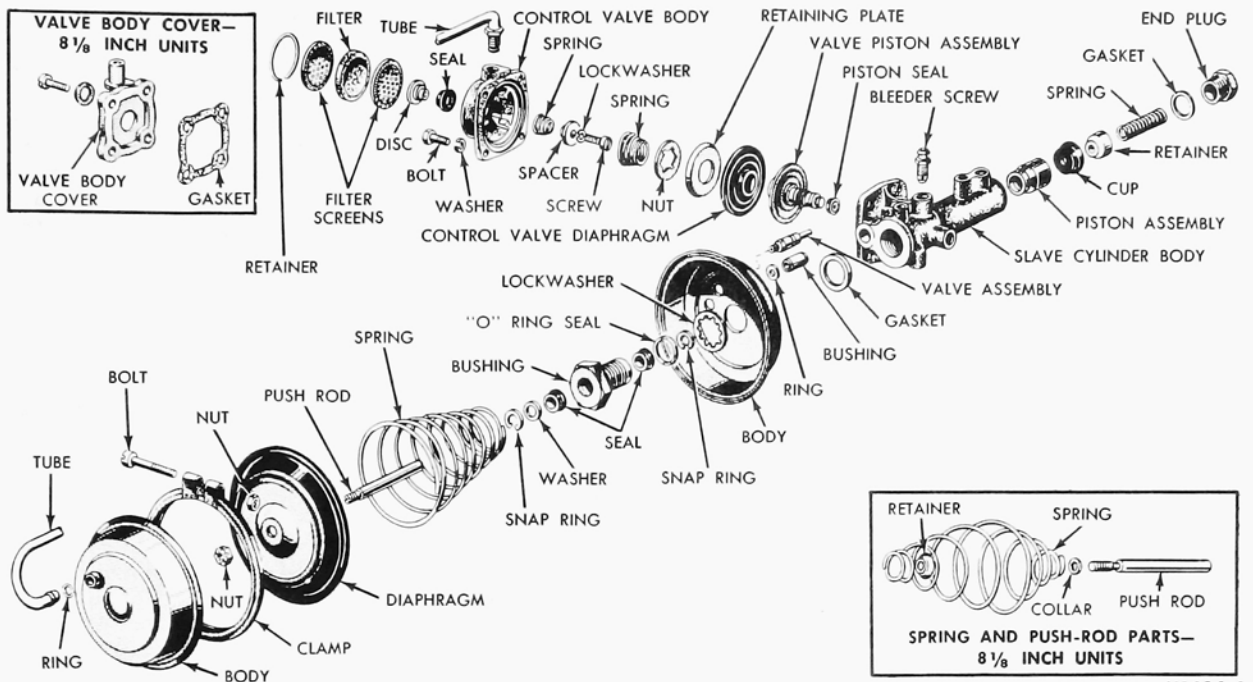

FIG. 32—Frame-Mounted—Diaphragm Type—Disassembled
The Midland Hy-Power diaphragm type booster used on P-500-5000 trucks is an 8 $\frac{1}{8}$ inch unit (Fig. 32).
1. Remove the by-pass tube from both the control valve body and the rear body (Fig. 32).
15. Position the collar over the threaded end of the push rod. Position the spring retainer in the spring as shown in the insert in Fig. 32. Insert the push rod and collar in the coils of the spring and through the retainer. Position the diaphragm over the threaded end of the push rod and secure it with the push rod nut. Tighten the nut securely. After the nut is tightened coat the threads of the push rod with shellac to prevent leakage. Coat the push rod with heavy-duty type brake fluid.